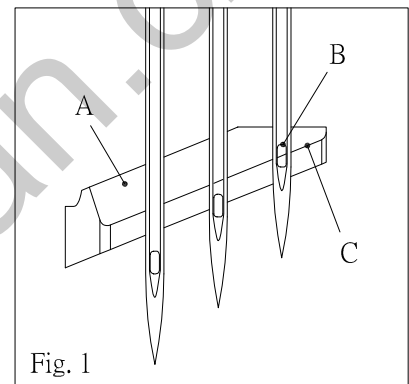

Fig. 1
When needle bar reached to its lowest dead point, the ridge line C of rear needle guide (A) should be positioned at the center of right needle eye B. (Fig. 1)